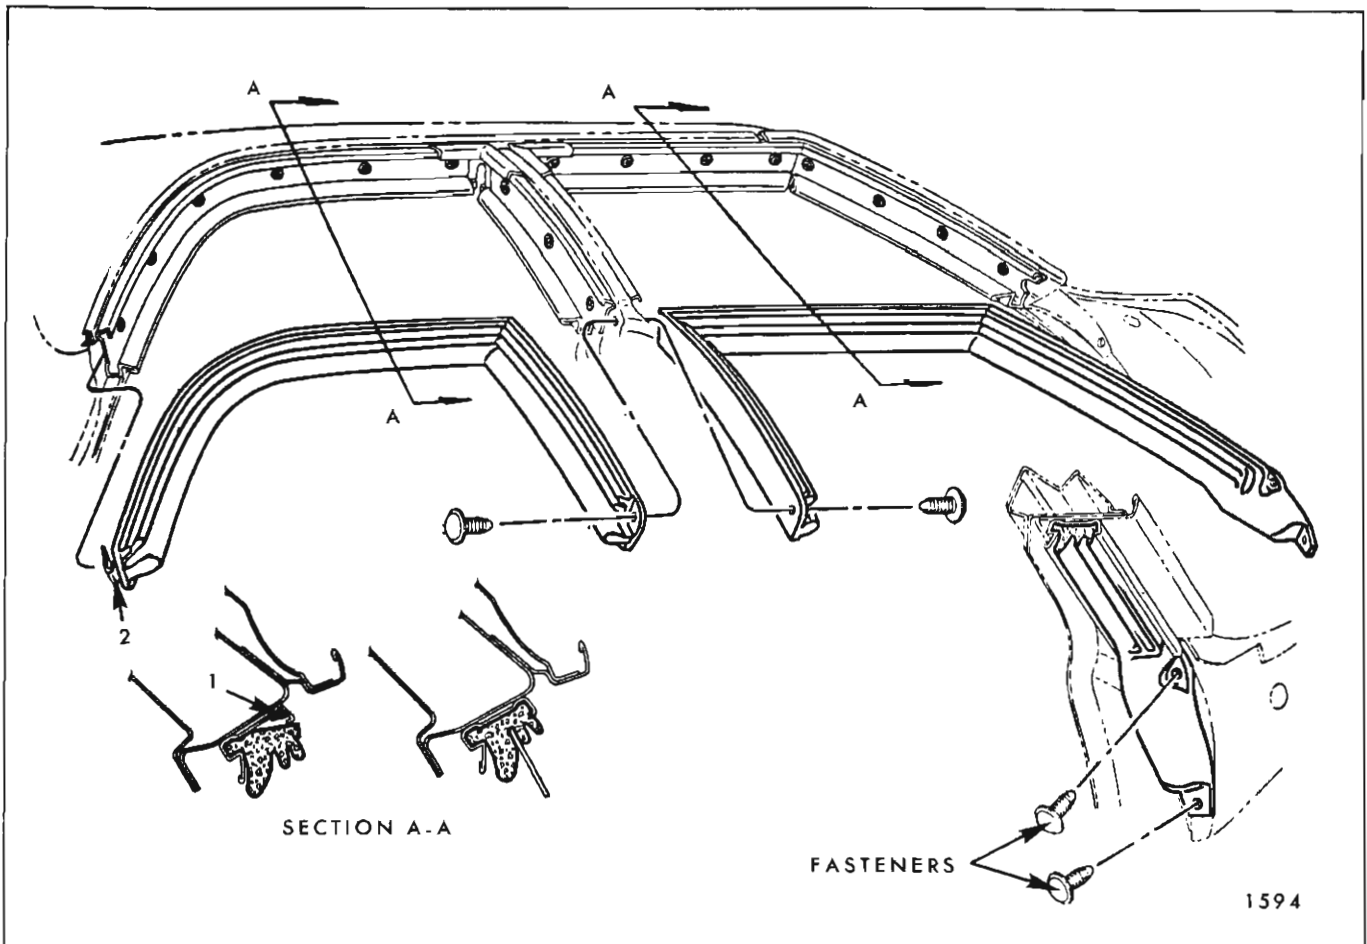

Fig. 1D27—Side Roof Rail Weatherstrip - "69" Styles
8. Using a flat-bladed tool as shown in Section A-A of Figure 1D26 and 1D27, engage outboard lip of weatherstrip with retainer.